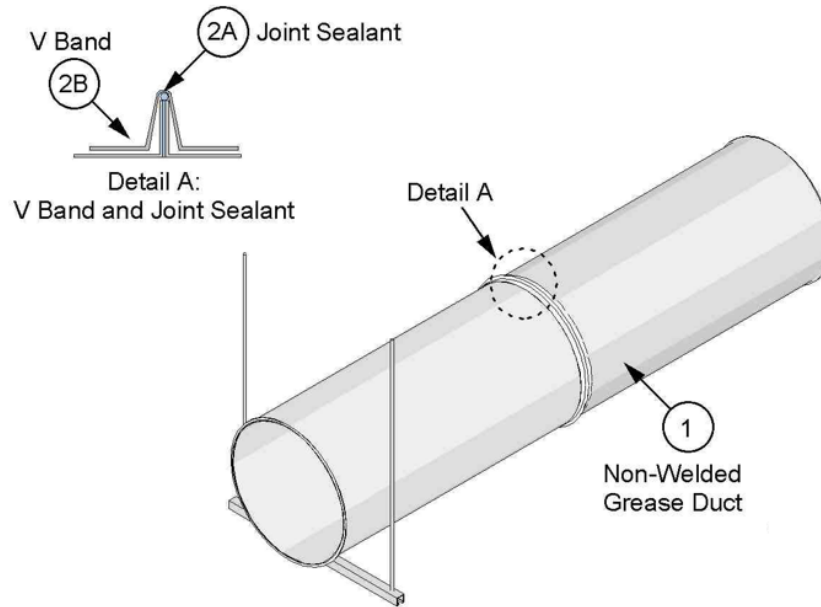

Figure 1. Non-Welded Grease Duct Model No. MH-DW
- B. **V BAND –** Use the supplied V band (see Figure 1). Place the loose V band, filled with sealant (Item 2A), over one of the duct flanges. Join to the other duct flange with the continuous bead of sealant (Item 2A) and rotate slightly to ensure complete coverage of sealant (Item 2A) on flanges. Ensure that the flanges are located within the V band and that the V band hardware is not at the bottom side of a horizontal duct.